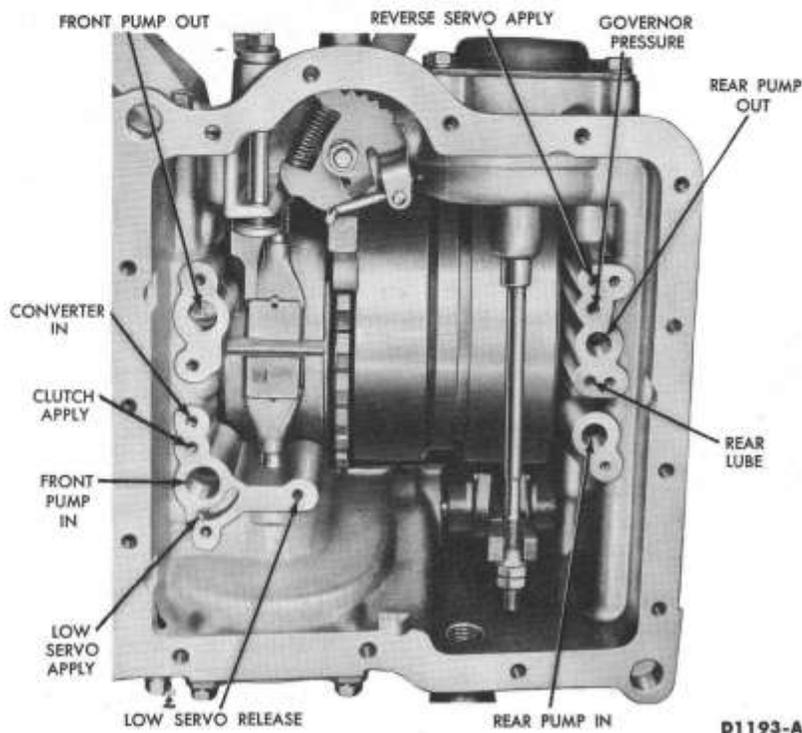

FIG. 21—Transmission Case Fluid Passages
5. Apply air pressure at the reverse servo apply passage in the case (Fig. 21), and force the reverse servo piston out of the case.